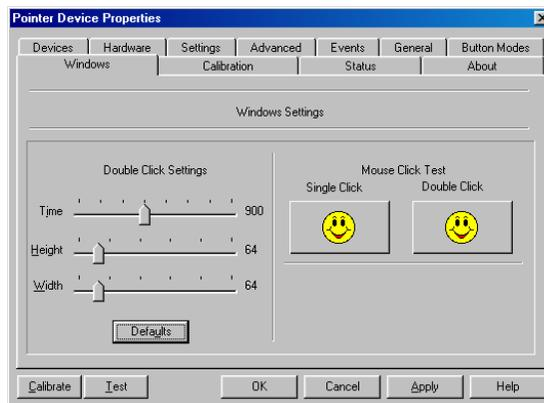

Figure C.6 Double-Click
- The ‘Windows’ tab (Figure C.6) provides options to adjust the stylus double-click – the ‘Time’ between clicks and the acceptable distance in ‘Height’ and ‘Width’ from the item you want to double-click on. Settings can be tested on the ‘Single Click’ and ‘Double Click’ icons.